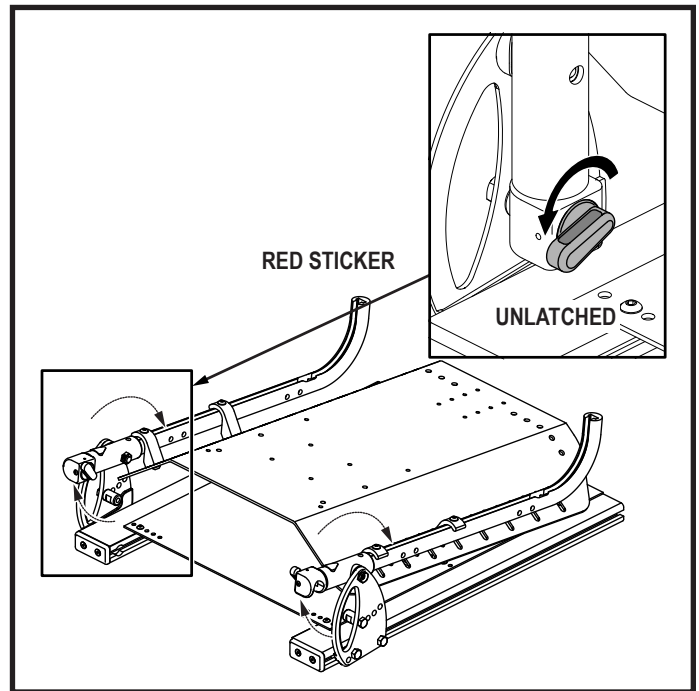

Figure 6. Flip-forward Back Canes (Unlatched)
1. Rotate the release lever on both back canes toward the rear of the seat to unlatch the back canes. **See figure 6.**